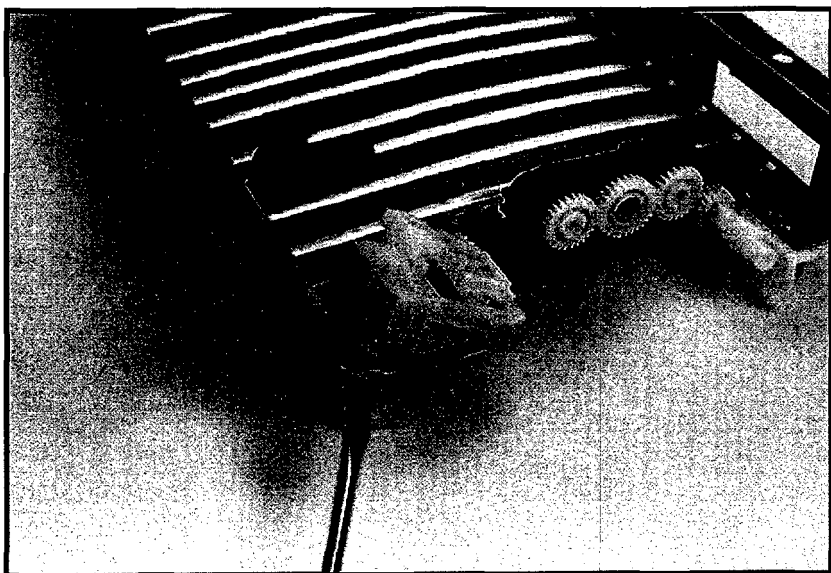

Figure 6-47 Removing the Toner Cartridge Lever Assembly
2. Push upward on the plastic latch which holds the axis shaft in place. Slide the axis shaft out (Figure 6-47).